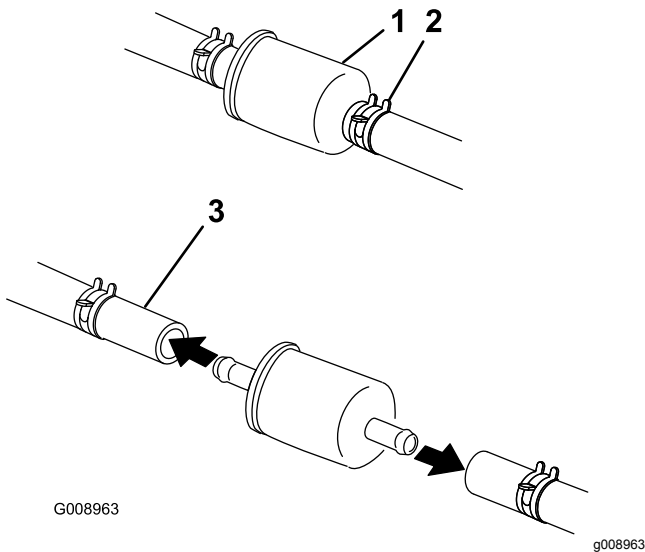

Figure 57
4. Close the fuel-shutoff valve under the seat (Figure 57).
5. Squeeze the ends of the hose clamps together and slide them away from the filter (Figure 57).
7. Install a new filter and move the hose clamps close to the filter (Figure 57).